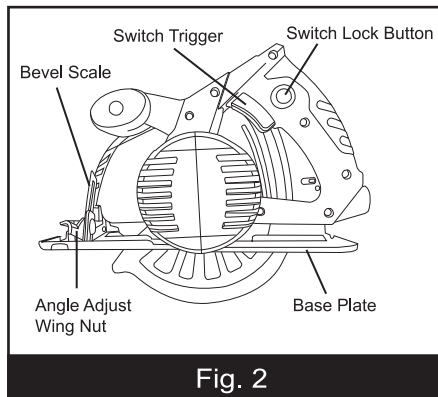

Fig. 2
1. To adjust the bevel cutting angle between 0 and 45 degrees, loosen Angle Adjust Wing Nut and move the Base Plate to the desired angle according to the Bevel Scale. Tighten wing nut. (Fig. 2)